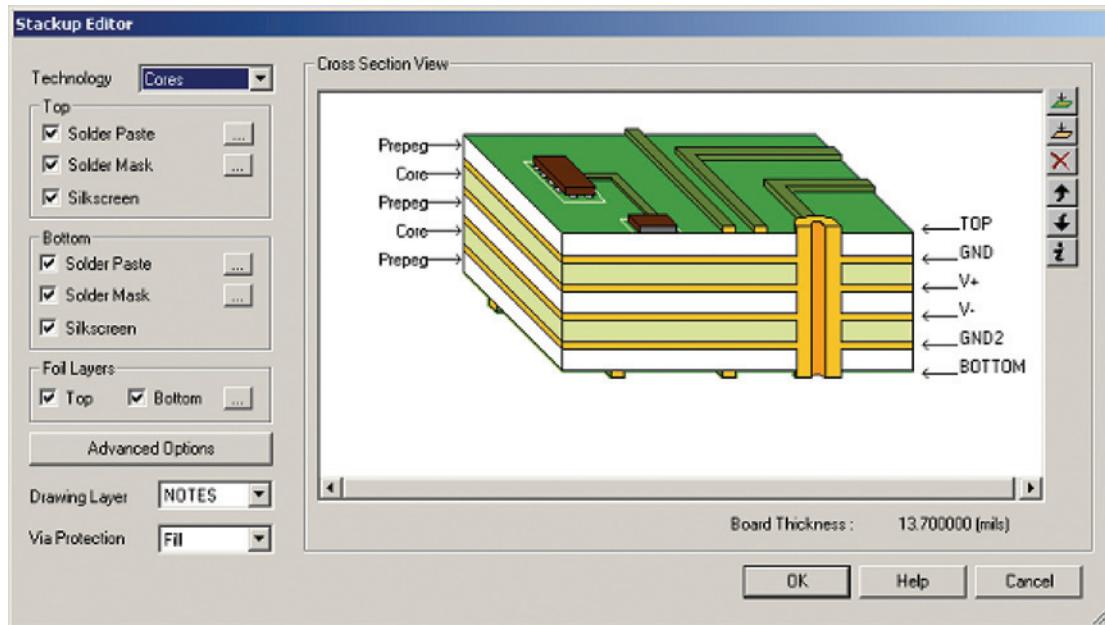

Figure 9-152 Layer Stackup Editor.
To invoke the Stackup Editor from an active board design (.MAX file) select **Stackup Settings** from the **Options** menu. The Stackup Editor is shown in Fig. 9-152.
To move layers up and down select the layer you want moved (left click once) and then use the move up/down arrow buttons, (see right-hand side of Fig. 9-152). Figure 9-153 shows the **Layers** spreadsheet in the active design after moving the GND2 layer around.
**To add a stack-up drawing to a board design** choose one of the document layers from the **Drawing Layer** dropdown list (see lower left corner of Fig. 9-152). When you click **OK** the stack-up drawing will be added to the board design. Note that you may have to zoom out to see it, and you have to have the document layer you selected visible. You can change the color of the stack-up drawing by changing the color of the layer to which it is assigned (click the **Color Settings** button on the toolbar).
To submit the layer stack-up information to a board manufacturer you can include it with the Gerber files. As described above the stack-up drawing is typically placed on a documentation layer. To include it with the Gerber files you must use one of the documentation layers that are included in the postprocess list. These include the assembly layers (\*.AST and \*.ASB) and the fabrication layer (\*.FAB). Note that you can also use one of the other documentation layers (silk screen, etc.), but the assembly and fabrication layers are probably more appropriate. The target document layer is selected with the **Drawing Layer** dropdown list on the Stackup Editor (see lower left corner of Fig. 9-152). When you perform the postprocessing make sure that the layer containing the stack-up drawing is enabled. To enable that layer select **Post Process Settings...** from the **Options** menu and set **Batch Enabled = Yes**.